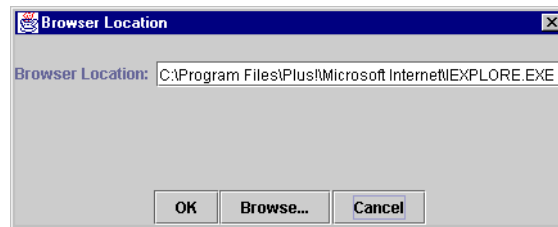

Figure 6-3. Browser Location Dialog Box
1. On the SANblade Manager main window **Help** menu, click **Set Browser Location**. The **Browser Location** dialog box displays (see figure 6-3).